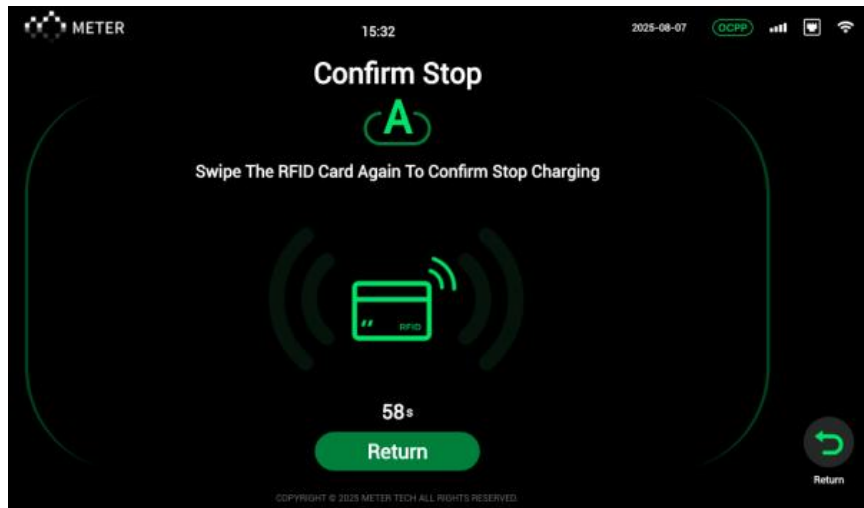

Figure 43. RFID Card Settlement Interface
- When choosing an RFID card, you need to swipe the card again to pay (as shown in Figure 43)